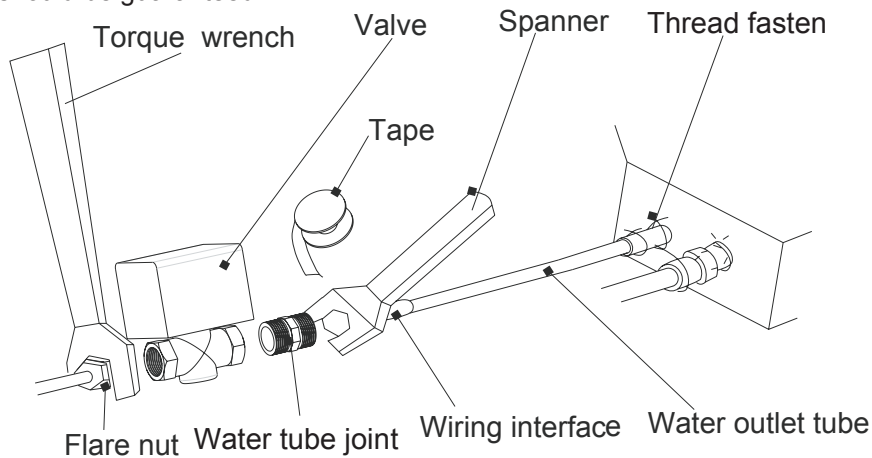

Fig.17
- (1) The installation of the motorized valve should be done according as Fig.17. Firstly connect one end of the tube joint with the water inlet tube of the unit, then connect the other end with the motorized valve, and lastly connect the motorized valve with the flare nut. During the installation, both the torque wrench and the spanner should be used and the moment of torque should be within 90 N.m. Besides, a secure connection should be guaranteed.